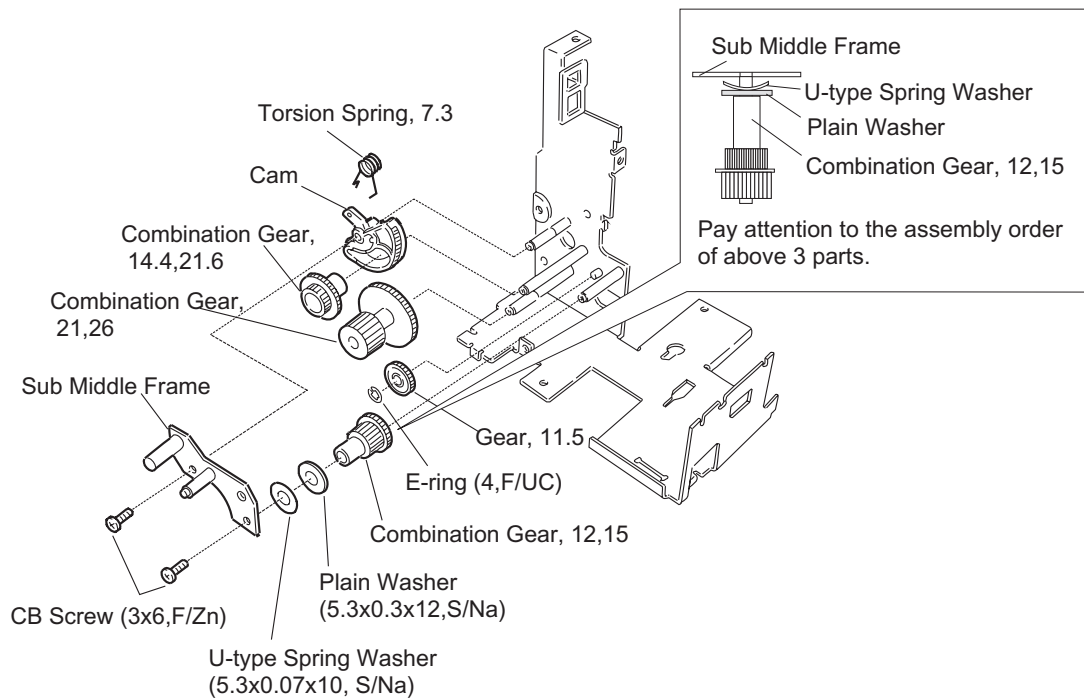

Figure 3-64. Middle Sub Frame Removal
(See Figure 3-64.)
- Notice how gears engage. See figures 3-64 and 3-65.